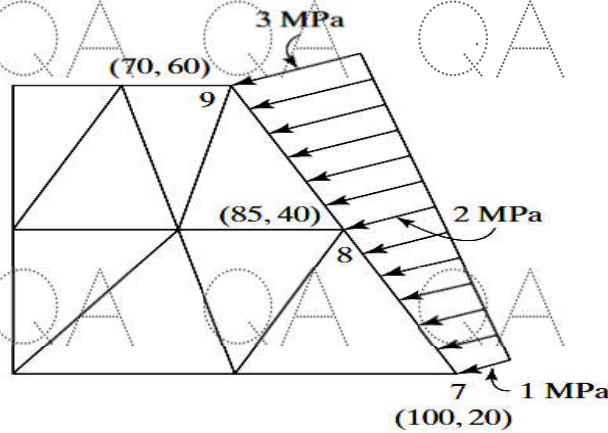

Figure 5
6. A two-dimensional plate is shown in figure 5. Determine the equivalent point loads at nodes 7, 8, and 9 for the linearly distributed pressure load acting on the edge 7–8–9. Take thickness as 10 mm. [10]